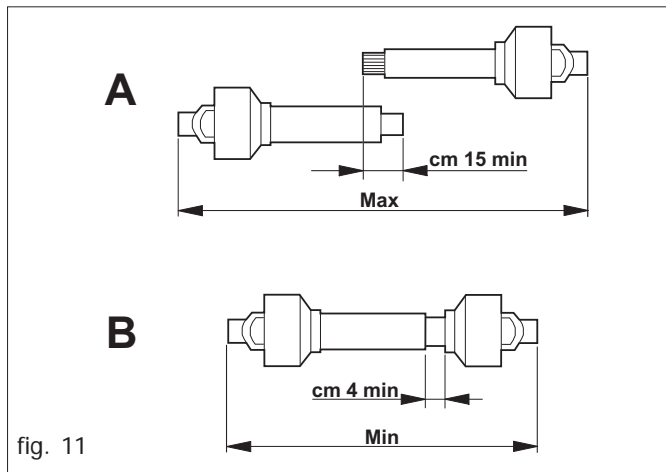

fig. 11
- When the Cardan shaft is pulled out as much as it can go, the two pipes must be superimposed for at least 15 cm (A fig. 11). When it is inserted all the way, the minimum play allowed must be 4 cm (B fig. 11).